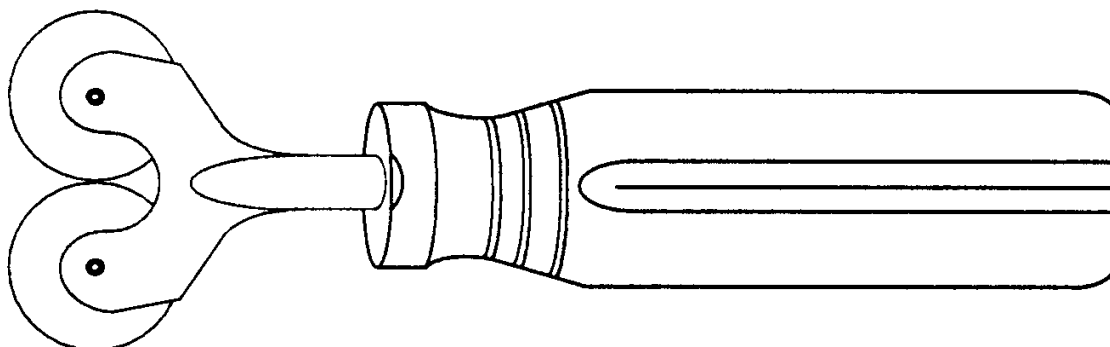

Figure 3 - Knife Sharpener Type Edge Finishing Tool
5.3.3 Knife Sharpener Type Edge Finishing Tool (see Figure 3)